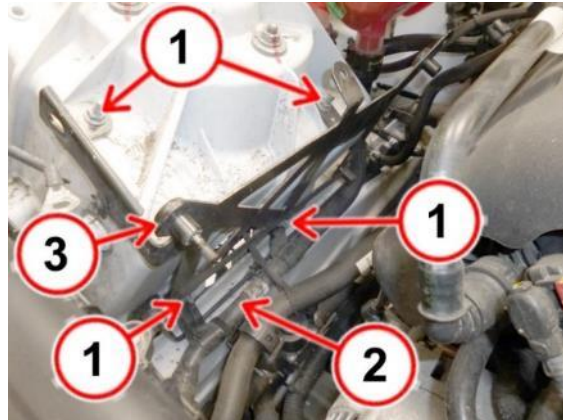

Figure 35 – PCM Control Module Support Bracket
- 46. Remove the four nuts (1) from the PCM support bracket (Figure 35).
- 47. Remove the engine coolant reservoir return pipe retaining clips (2) from the PCM support bracket and set aside (Figure 35).
- 48. Remove the PCM support bracket (3) (Figure 35).
78. Position the PCM support bracket (3) to the strut tower (Figure 35).
79. Install the engine coolant reservoir return pipe retaining clips (2) to the PCM support bracket (Figure 35).
80. Install the four nuts (1) to the PCM support bracket. Tighten the nuts to 9 N·m (80 in. lbs.) (Figure 35).